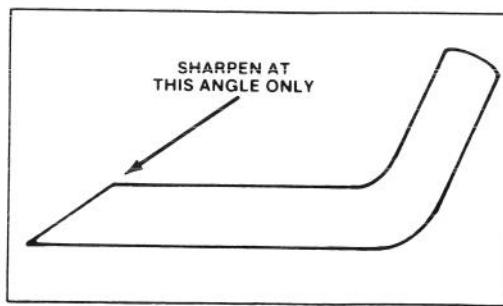

Figure 15
6. SHARPENING BLADE — Using a file, sharpen top side of blade and maintain original cutting angle (Fig. 15). The blade will remain balanced if same amount of material is removed from both cutting edges.